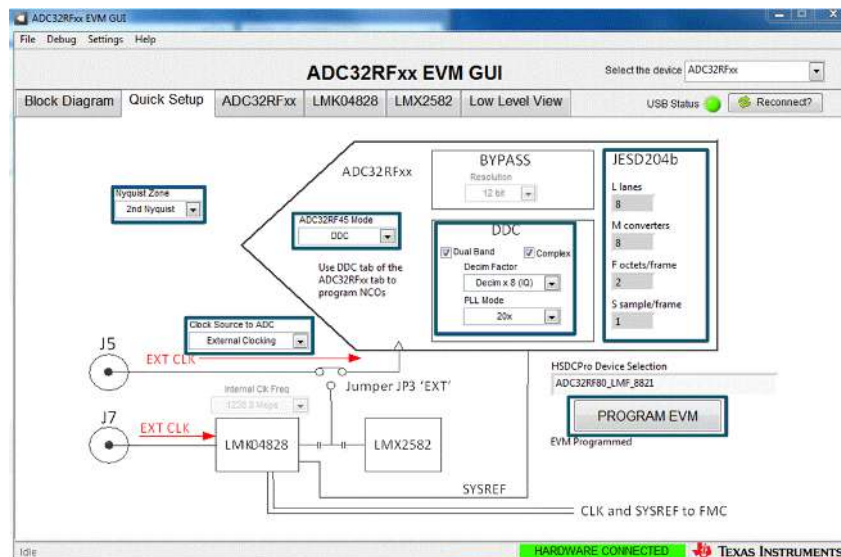

Figure 19. ADC32RFxx-EVM Quick Setup View DDC Mode
- After pressing the **PROGRAM EVM** button, the device is configured as shown in Figure 19 and Figure 20, indicating the 12-bit packed, 5-sample mode for LMFS82820.